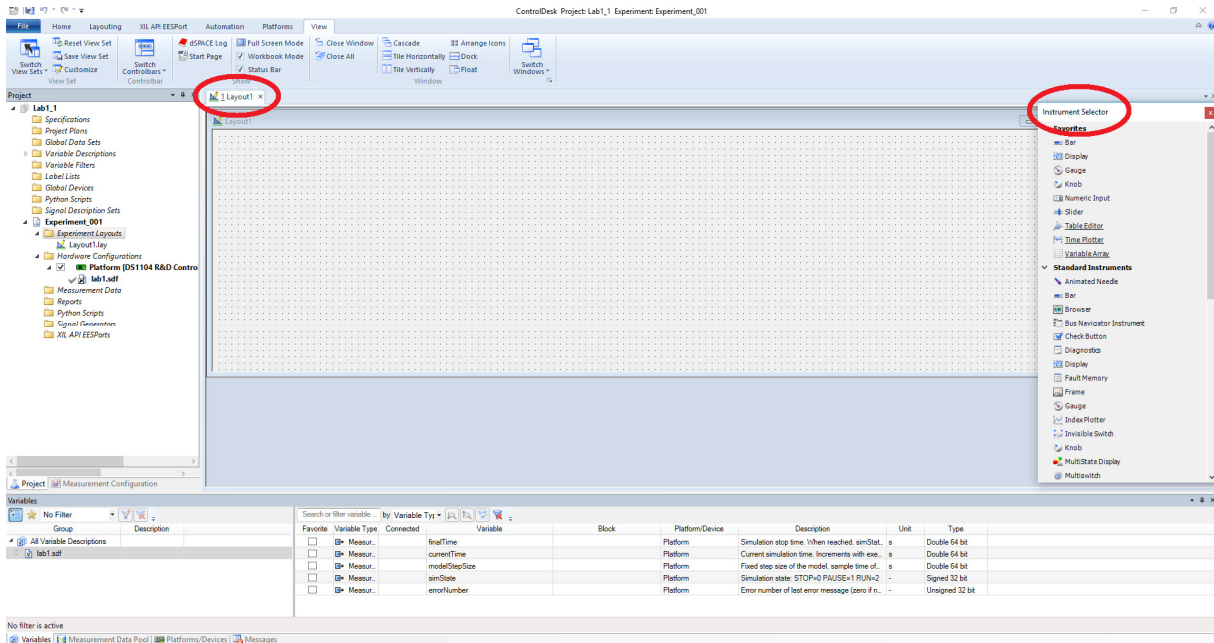
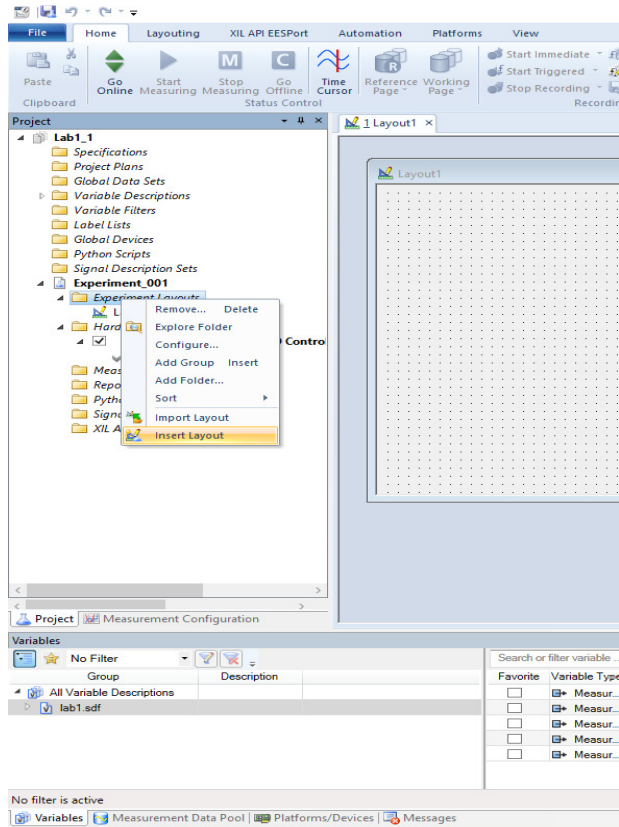

Figure 9: New layout and instrument selector
Figure 10: Opening new layout
- a. A new layout window should appear as shown on Fig. 9. Otherwise, click **Insert Layout** to open a new layout, as shown in Fig. 10. If the Instrument Selector does not show automatically, it can be accessed through **View > Controlbars > Instrument Selector**. The instruments in the instrument selector window can be added to the layout window by clicking on an instrument name and drawing it in the layout window. Click anywhere in the layout window and drag the mouse until the instrument is the desired size.